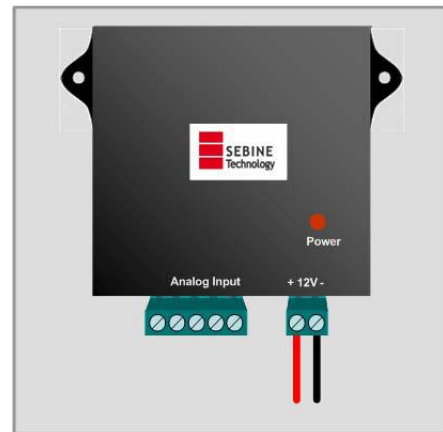

Figure 9. Power Supply-3
- ③ Connect the socket to W210A's power unit as described in Figure 9.